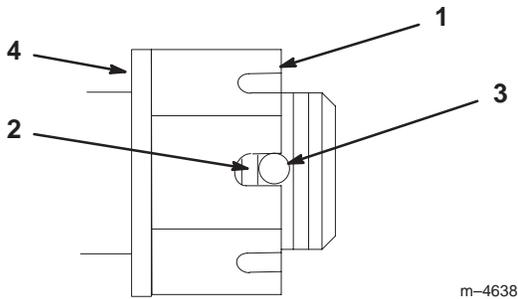

Figure 38
4. Check the distance from bottom of slot in nut to inside edge of hole. Two threads or less should be showing (Fig. 38).
5. If more than two threads are showing remove nut and install washer between hub and nut (Fig. 38).
6. Torque the slotted nut to 125 ft-lbs (169.5 N•m) (Fig. 38).
7. Tighten nut until the next set of slots line up with the hole in the shaft (Fig. 38).